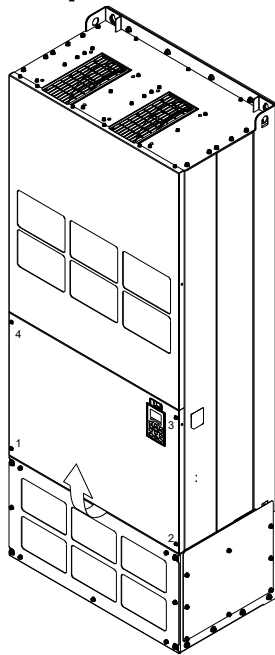

Figure 1
1. Loosen the screw 1–4 and remove the top cover (figure 1). Screw torque: 14–16 kg-cm / [12.2–13.9 lb-in] / [1.4–1.6 Nm]